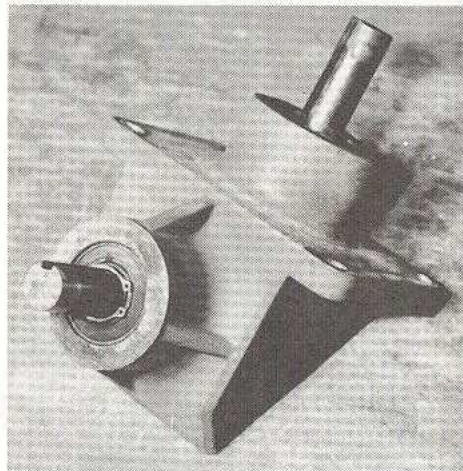

FIG. 68
11. Press outer (sealed) bearing on shaft using the snap ring as a gauge for locating bearing on shaft. See Fig. 68.
15. Be sure snap rings are installed on outer end of both shafts. See Fig. 68.